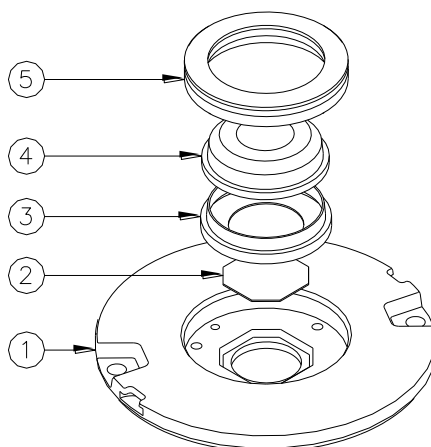

Figure 27 – Lens Gasket
- lens gasket mounted between lens and dome (Figure 27- n°3).